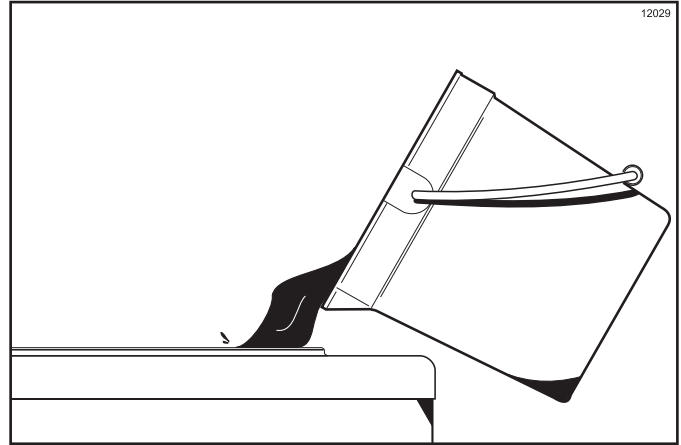

Figure 6-68
1. Pour 2 gal. (7.6 L) of cool, clean water into the mix hopper. With the white hopper brush, scrub the mix hopper, mix-level sensing probes, and the outside of the agitator driveshaft housing. Using the double-ended brush, brush-clean the mix inlet hole. (See Figure 6-68.)